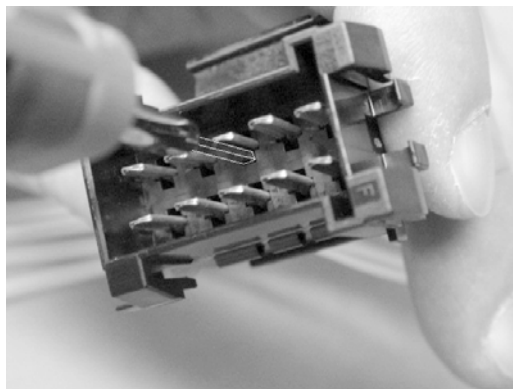

Figure 4
5. Perform the same procedure for removing contacts from Fastin-Faston connectors. See Figure 4.